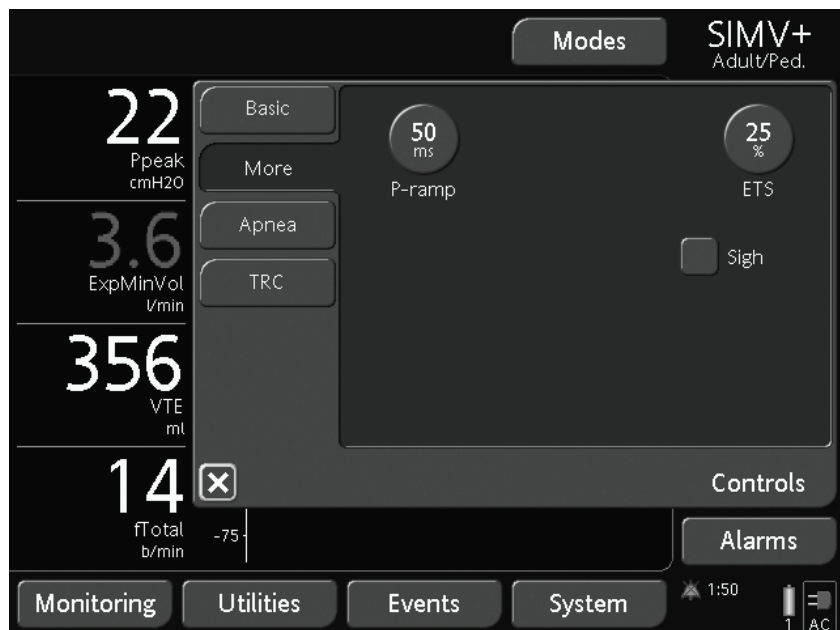

Figure 4-6. More window
3. Open the **Controls** -> **More** window (Figure 4-6), and select and adjust parameters as desired.
2. Open the **Controls** -> **More** window (Figure 4-6), and select and adjust parameters as desired.